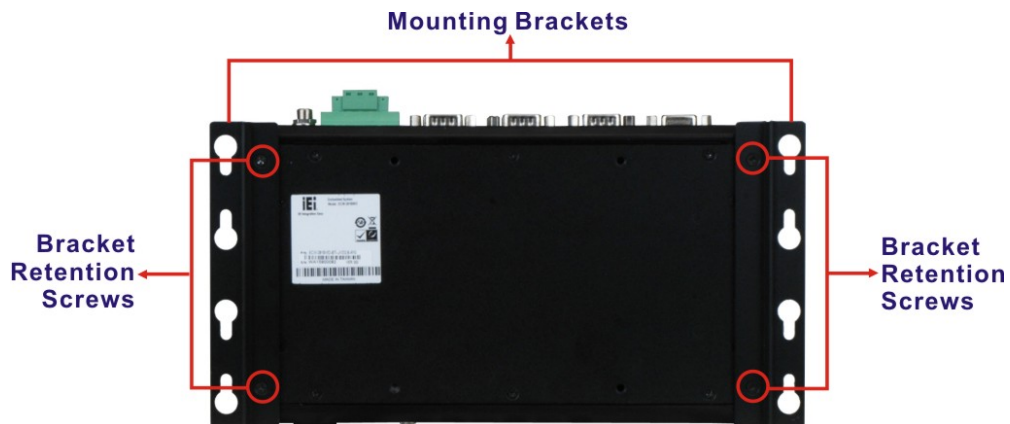

Figure 3-22: Mounting Bracket Retention Screws
- Step 3:** Secure the brackets to the system by inserting two retention screws (M3*5) into each bracket (Figure 3-22).